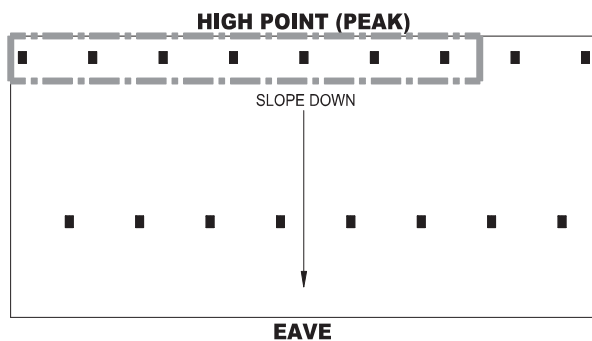

FIGURE 22B
- Calculation #1: Calculate the 7 most hydraulically demanding contiguous DS sprinklers located along the high point (peak). See FIGURE 22B.